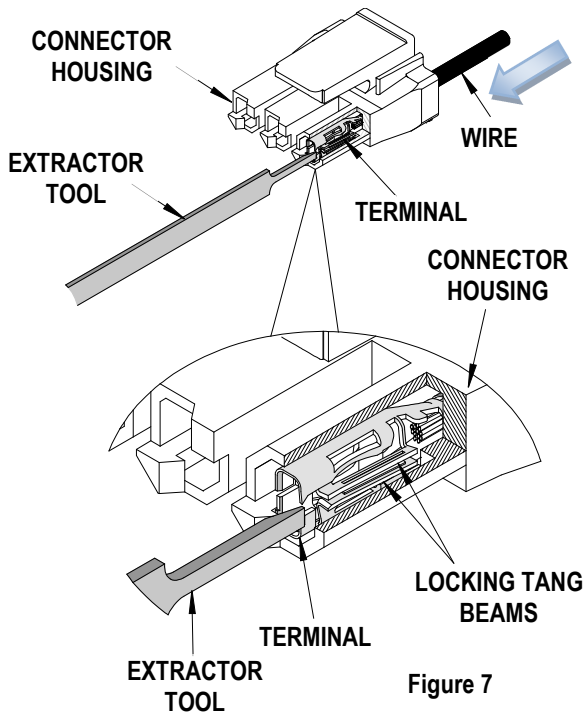

Figure 7
1. Push the terminal forward in the arrow direction before using the Extractor Tool as shown in Figure 7. Insert the Extractor Tool into the slot on the side of the connector housing.